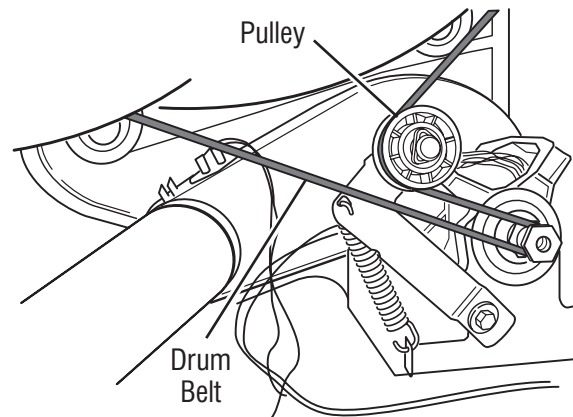

Figure 1 - Slowly remove drum belt.
7. Check the drive motor and belt switch (gas dryer only). Slowly remove the drum belt from the spring-loaded belt switch pulley, gently letting the pulley down. See figure 1.